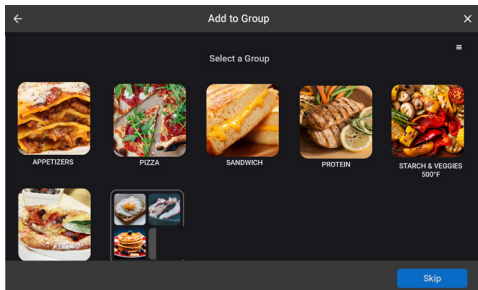

Figure 32: Select Groups to Place Recipe Into
11. Select which group(s) to which the recipe will be added (Figure 32, below).